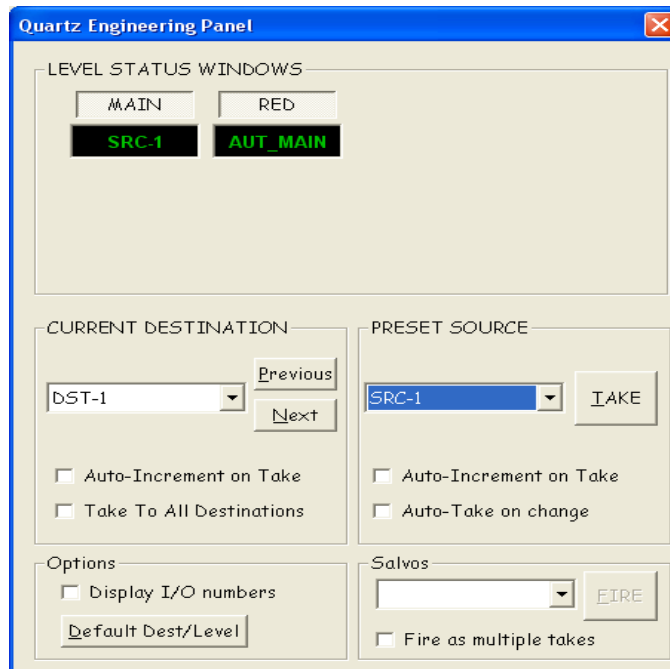

Figure 15-1 : Level Status Window
- The status of the output will be displayed under “Level Status Window”. Shown in Figure 15-1 below: